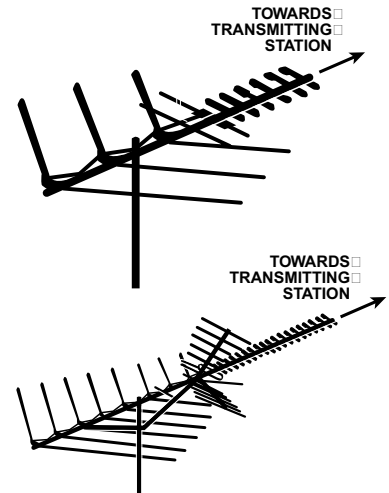

Fig. 1
1. If antenna has a 2 or 3-section crossarm (boom), assemble the sections with screws and wing nuts. (See Fig. 1). On 3-section antennas, assemble with the short elements to the front of antenna and the long elements to the rear of antenna. When assembling, push the front or rear sections into the center section with the slot in the front or rear sections pushed against the rivet, holding the insulator to the center section. This will line up the holes for the screw and wing nut.